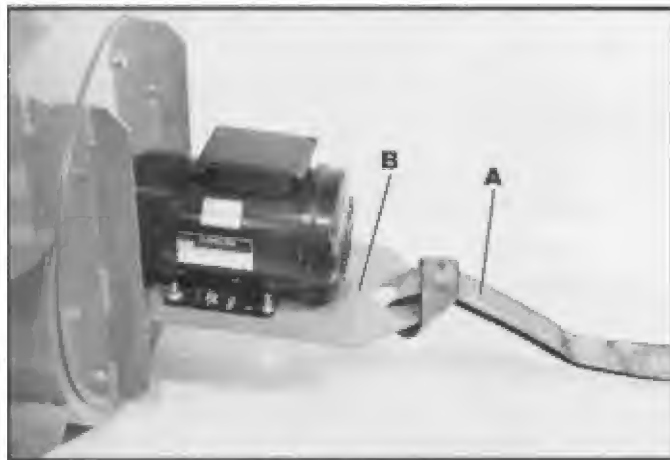

Fig. 18
2. **CAUTION:** Attach a sling or cable (A) Fig. 18, with at least a 750 pound live load capacity to the motor support frame (B) as shown. Using guide ropes, carefully raise the dust collector to an upright position on the floor.